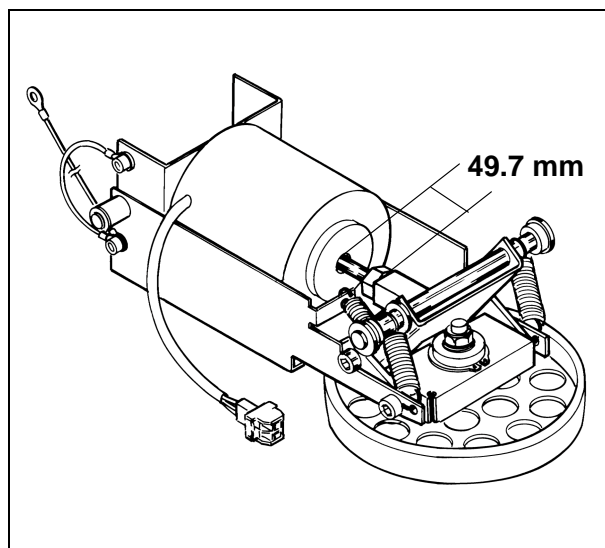

Fig. 14
- Check all springs for correct mounting and damage (Fig. 14).